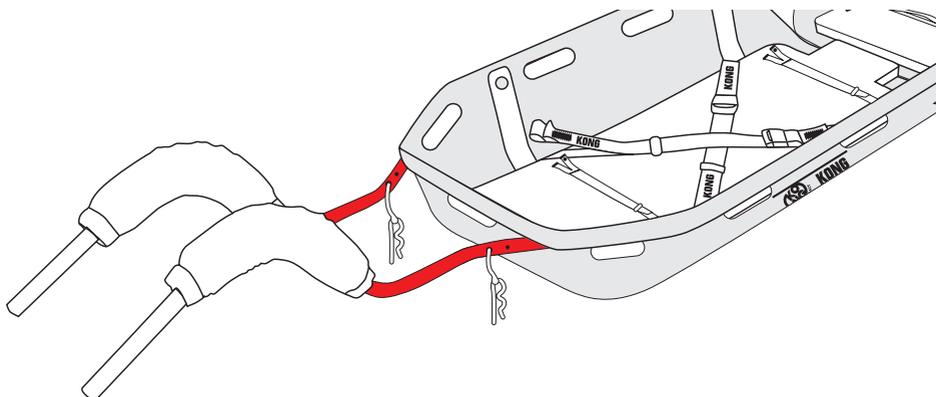

Fig.13
- a) Connect the handles to the frame of the stretcher (fig.13), making sure to observe the coupling numbering,